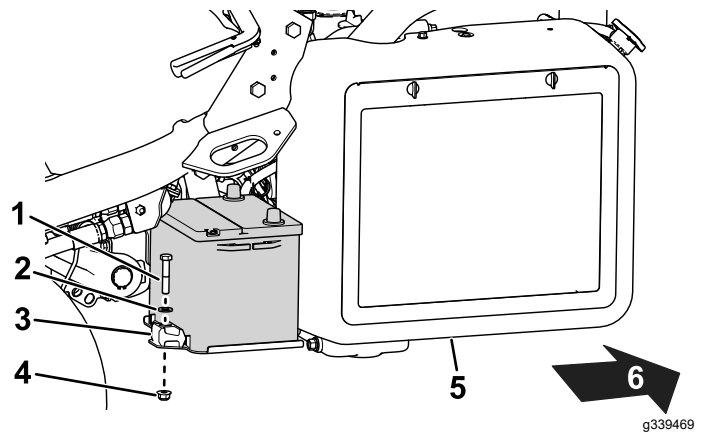

Figure 42
2. Remove the fasteners that secure the battery to the tray (Figure 42) and lift out the battery.
5. Place the battery on the battery tray and secure it with the previously removed fasteners (Figure 42).